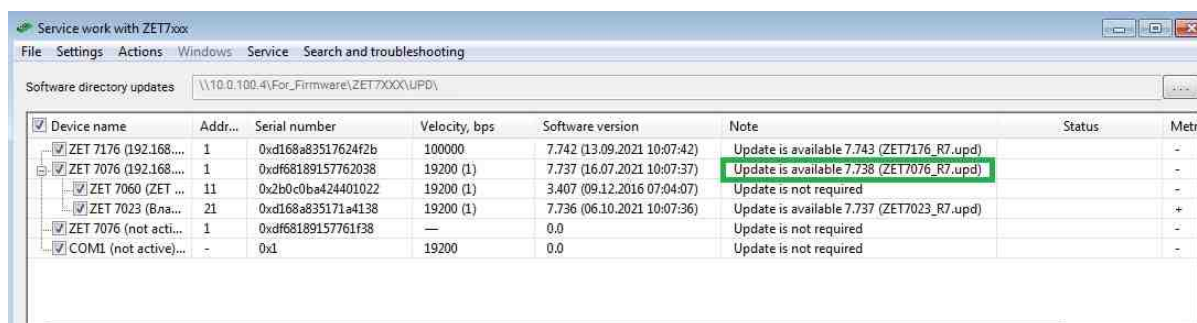

Fig.6.2 Firmware version available for update
2. Make sure you have a newer version of the device firmware. In the table of connected devices, in the line with the name of the digital sensor to be updated, in the "Note" column, the value "X update available" should be displayed, where X is the firmware version number (Fig.6.2).